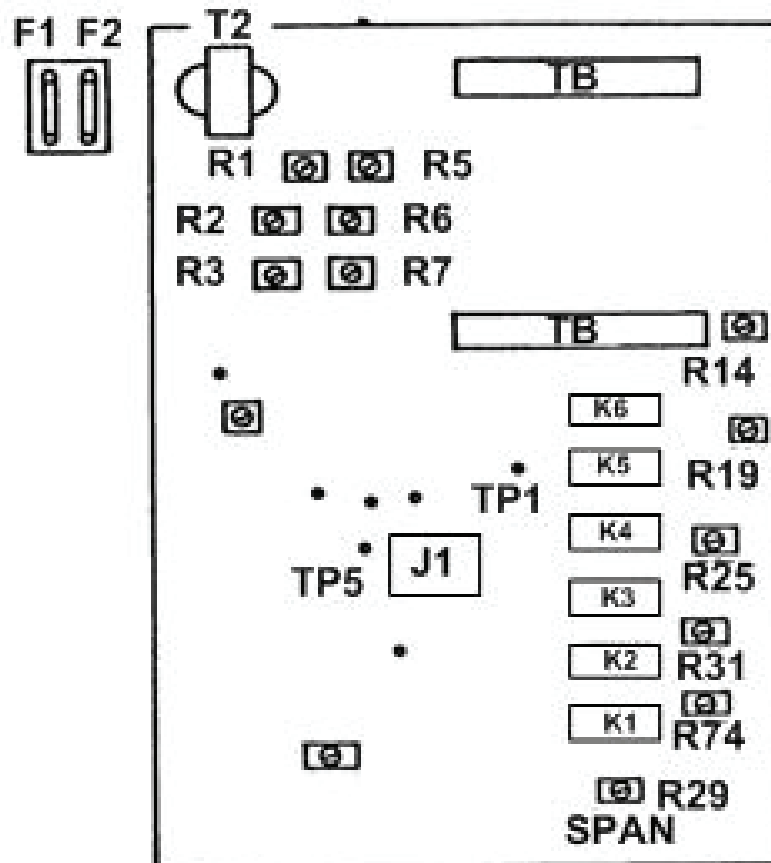

Figure 7. Adjustment locations.
Adjustments in (1) through (3) below are for each TI cell and are to be performed at 15,000 pounds with load cell No. 3 installed. If an indication within limits specified cannot be obtained, adjust R29 SPAN (fig. 7). R29 SPAN affects all three TI cell adjustments. If R29 SPAN is adjusted, repeat steps (1) through (3) below until no further adjustments are necessary.
(1) Loosen six screws on front of TI and remove front cover.
- (2) Rotate **POUNDS** thumbwheel to **15,000** and apply force for **NULL** indication.
- (3) Adjust R5 (fig. 7) for an indication within limits specified.
- (4) Adjust R6 (fig. 7) for an indication within the limits specified. (R)
- (5) Adjust R7 (fig. 7) for an indication within the limits specified. (R)
- (6) Linearity adjustments:
- (a) Apply a 10,000 pound load to cells, set **POUNDS** thumbwheel to **10,000** and adjust R31 (fig. 7) for null indication (R).
- (b) Apply a 20,000 pound load to cells, set **POUNDS** thumbwheel to **20,000** and adjust R25 (fig. 7) for null indication (R).
- (2) Connect oscilloscope between TP1 (red lead) and TP5 (black lead) (fig. 7). If indication on oscilloscope is not less than 1.5 V p-p, perform **b (1)** below.
- (3) Set **CELL SELECTOR** switch to **CELL 2** position.
- (4) Adjust **ZERO** control for null indication on TI null meter. If indication on oscilloscope is not less than 1.5 V p-p, perform **b (2)** below.
- (5) Set **CELL SELECTOR** switch to **CELL 3** position.
- (6) Adjust **ZERO** control for null indication on TI null meter. If indication on oscilloscope is not less than 1.5 V p-p, perform **b (3)** below.
- (1) Adjust R1 (fig. 7) for minimum waveform amplitude on oscilloscope. **ZERO** control (front panel) must be adjusted simultaneously to keep the meter at 0 indication.
- (2) Adjust R2 (fig. 7) for minimum waveform amplitude on oscilloscope. **ZERO** control (front panel) must be adjusted simultaneously to keep the meter at 0 indication (R).
- (3) Adjust R3 (fig. 7) for minimum waveform amplitude on oscilloscope. **ZERO** control (front panel) must be adjusted simultaneously to keep the meter at 0 indication (R).
(8) Substitute load cell No. 3 for load cell No. 4 in setup.
(9) Exercise load cell No. 3 to full capacity three times.
(10) Check TI cell from 2000 to 10,000 pounds in 1000 pound increments. TI indication will be within  $\pm 25$  pounds of load cell indicator indication.
(11) Repeat (10) above for each of the remaining two TI cells.
(12) Substitute load cell No. 2 for load cell in No. 3 in setup. Exercise load cell No. 2 to full capacity three times.
(13) Check TI cell from 200 to 2000 pounds in 200 pound increments. TI indicator indication will be within  $\pm 25$  pounds of load cell indicator indication.
(14) Repeat (13) above for each of the remaining two TI cells.
Adjustments in (1) through (3) below are for each TI cell and are to be performed at 50,000 pounds with load cell No. 4 installed. If an indication within limits specified cannot be obtained, adjust R29 SPAN (fig. 7). R29 SPAN affects all three TI cell adjustments. If R29 SPAN is adjusted, repeat (1) through (3) below until no further adjustments are necessary.
(1) Adjust R5 (fig. 7) for an indication within limits specified (R).
(2) Adjust R6 (fig. 7) for an indication within limits specified (R).
(3) Adjust R7 (fig. 7) for an indication within limits specified (R).
(4) Linearity adjustments:
(a) Apply a 10,000 pound load to cells, set **POUNDS** thumbwheel to **10,000** and R31 (fig. 7) for a null indication (R).